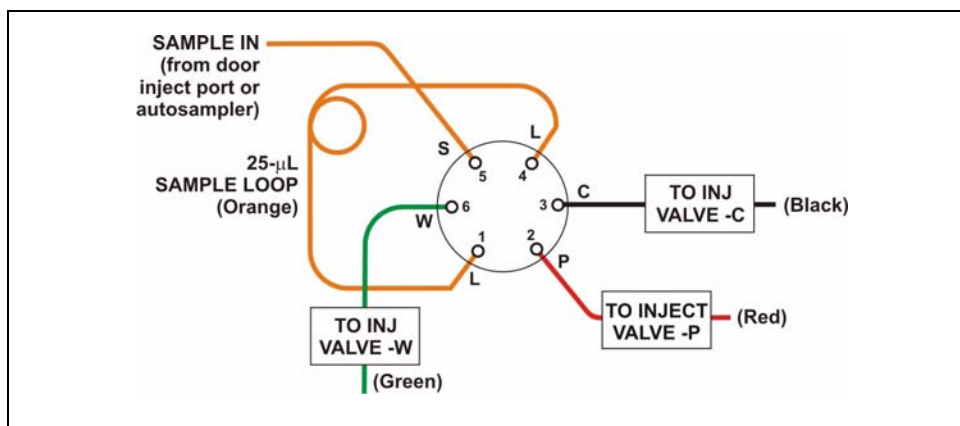

Figure 2-19. Injection Valve Plumbing
Figure 2-19 shows the injection valve connections. The injection valve is plumbed at the factory with all tubing and fittings for connection to the pump, injection port, column, and waste. A 25- μ L PEEK™ sample loop (P/N 042857) is installed between ports L (1) and L (4). Dionex offers sample loops in various sizes. If necessary, the pre-installed 25- μ L loop can be replaced with a loop that has a different sample injection volume.